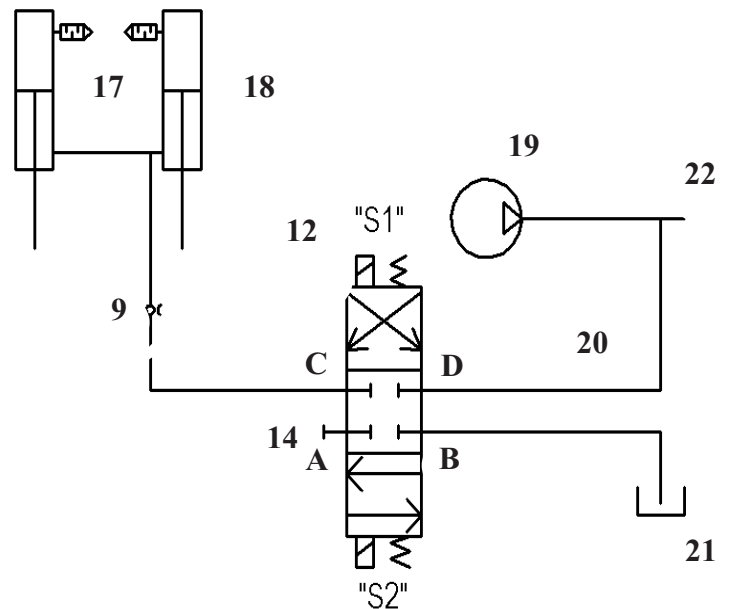

Figure 2.5 - Hydraulic Schematic
2. *Figure 2.5* illustrates the ideal setup for the hydraulic routing. The hydraulic cylinders (#17) are fed by a pressure line with a needle valve (#9) from the main switch block (#12) connected to port C. The one side of the block is tee'd into a fixed displacement pump (#19) circuit (#22) connecting to the block at port D. Port B on the block is tee'd into the tank line (#21). Port A is plugged (#14).